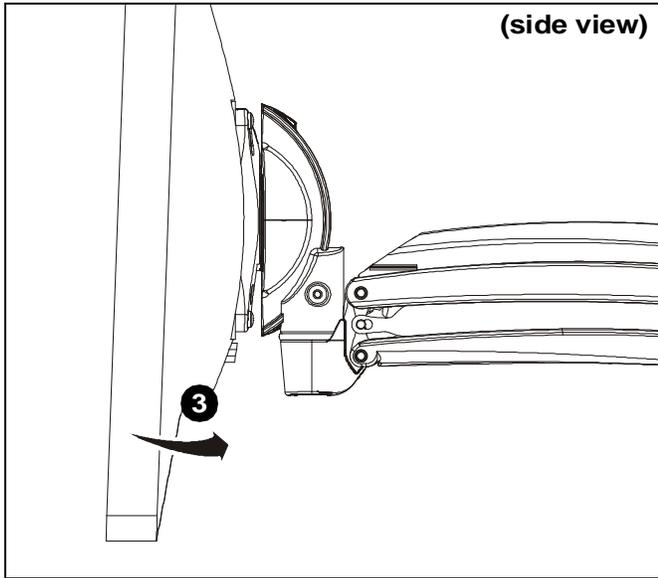

Figure 3
3. Slide base of monitor towards mount until lower tabs secure display to mount. An audible “click” should be heard. (See Figure 3)